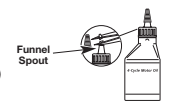

Fig. 6
NOTE: This unit is shipped without oil. In order to avoid damage to the unit, put oil in the crankcase before you attempt to start the unit. Your unit is supplied with one 3.04 fluid oz. (90 ml) bottle of SAE 30 SF, SG, SH oil (Fig. 6).
1. Unscrew the top of the bottle of oil and remove the paper seal covering the opening. Replace the top. Next, cut the tip off the funnel spout (Fig. 6).